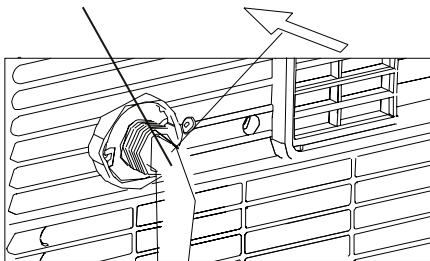

Fig.22
- Remove the rubber plug at the back of the unit and attach a hose to the drain outlet. Lead the open end of the hose to the desired drainage receptacle (See Fig.22 & 23).